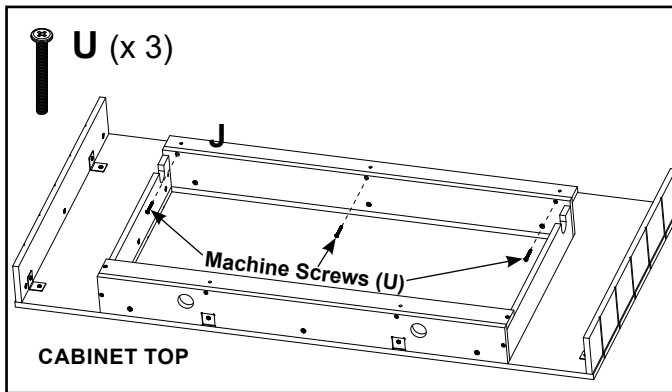

Figure 27
- Secure part "J" to part "I" using three (3) M6 x 50 Machine Screws (U). See Figure 27.